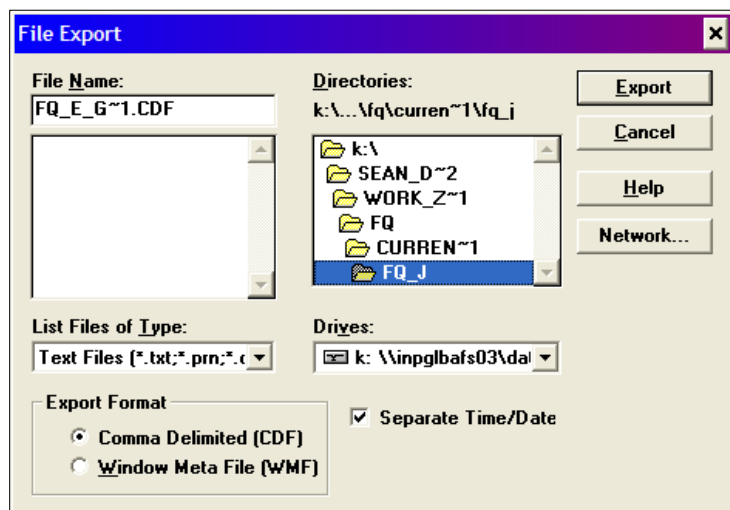

Figure SOP13.3. Specifying the comma delimited file export type and location.
3. Navigate the output to **INPGLBAFS03\DATA\SEAN_Data\Work_Zone\FQ\yyyy\FQ_J** (Figure SOP13.3).